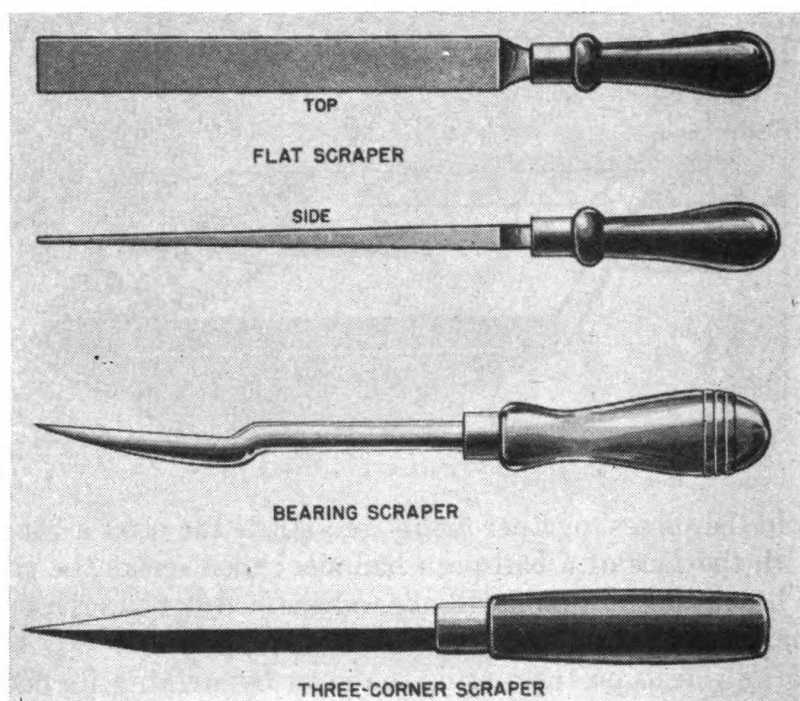

FIGURE 73.—Types of scrapers.
22. Scrapers.—*a. General.*—Scrapers are tools for leveling surfaces which have previously been machined and must be true. The types commonly used are flat scrapers, bearing scrapers, and three-cornered scrapers, shown in figure 73. Flat scrapers should be used for removing high spots from flat surfaces only. The three-cornered scraper is used mostly for removing burs or sharp internal edges from